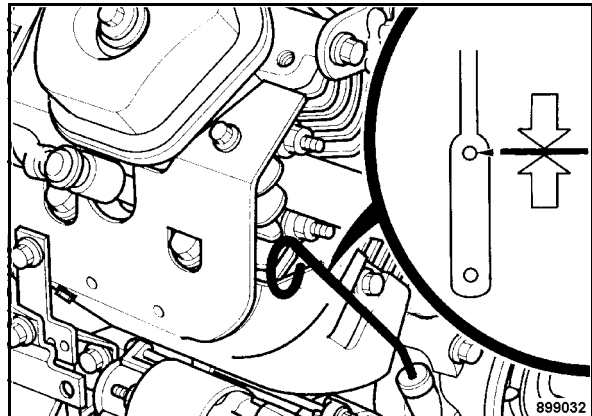

Fig. 78
- Check the oil level on the dipstick (Fig. 78) after a short test run. The oil level must reach the top mark, fill in oil if necessary.